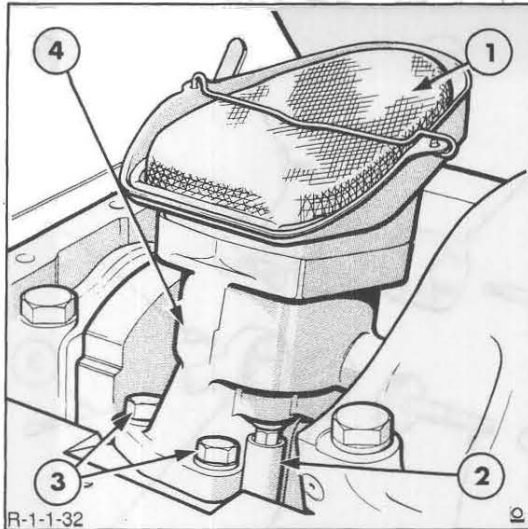

Figure 31
2. Remove the oil pump with the filter screen, Figure 31. Withdraw the intermediate shaft.